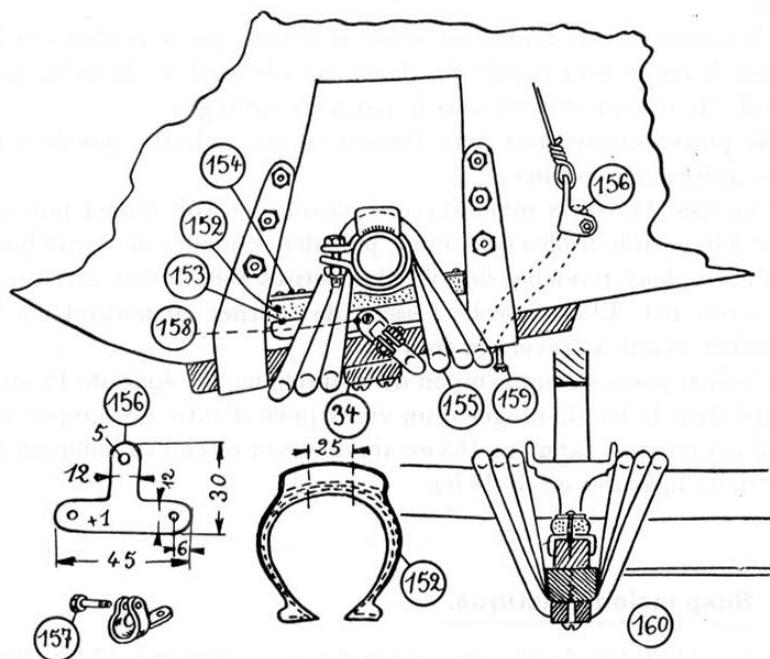

Figure 3.22: Rubber pads and bungee cord
sheet of 0.6mm aluminum (153) and held to the longeron (12) by two steel wire ligatures (fig. 3.22).